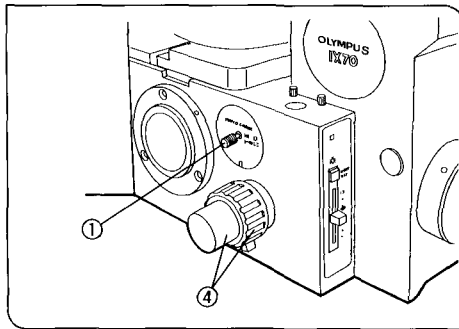
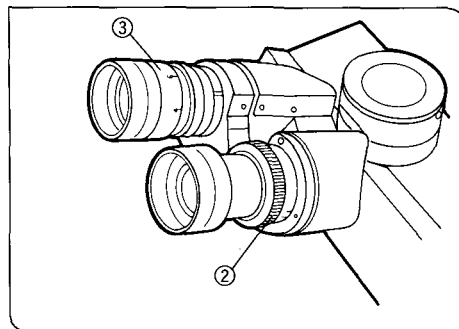

Fig. 67
Fig. 68
1. Pull out the photo frame ① to engage the photo mask into the light path. (Fig. 67)
2. Looking through the right-hand light path's helicoid eyepiece, turn the diopter adjustment ring ② on the eyepiece sleeve until the reticles in the center of the photo mask are seen as two distinct sets of reticles in the field of view. (Figs. 68, 69)
3. Looking through the left-hand light path's eyepiece, turn the diopter adjustment ring ③ on the eyepiece until the reticles in the center of the photo mask are seen as two distinct sets of reticles in the field of view.
4. Rotate the coarse and fine adjustment knobs ④ to bring the specimen into focus. (Fig. 67)